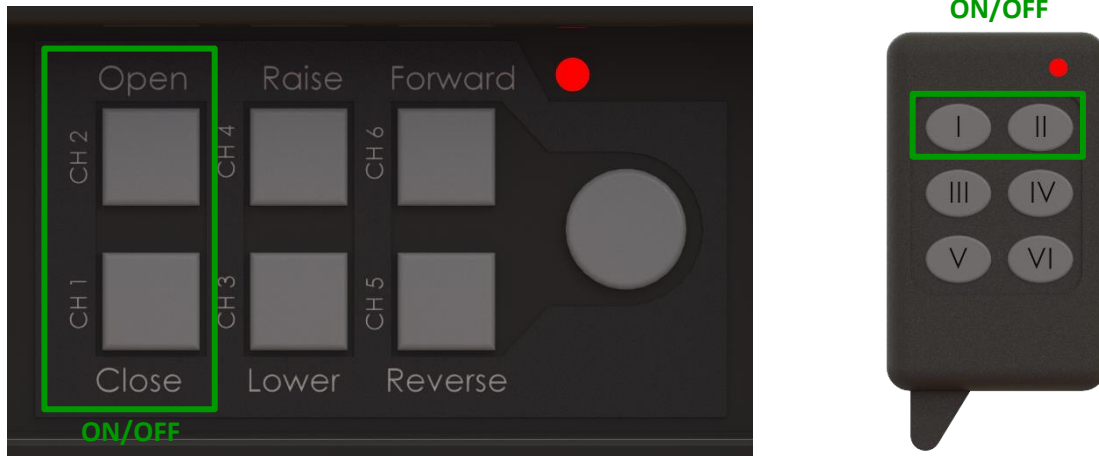

Figure 1: Power Up/Down Procedure
1. On all systems with remote operation, you must first turn on the control box. To activate (Power up or down) the control box you must press and hold one and two on the control unit or keyfob (Figure 1). Non remote systems are always active.